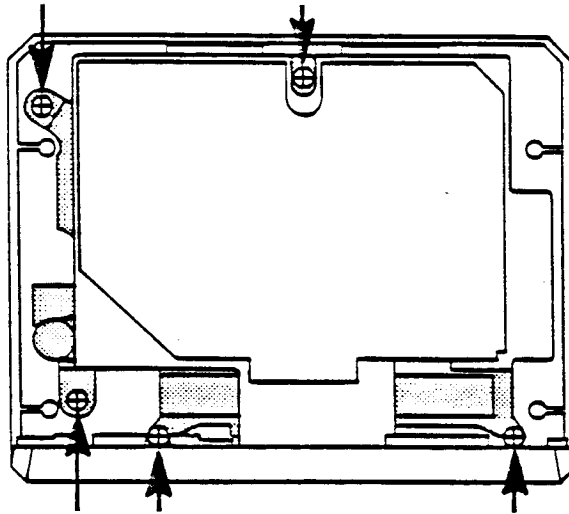

Figure 3-4. Removing the Drive Mechanism
- Remove the five screws holding the drive mechanism in place, as illustrated in Figure 3-4 below.
- Replace the drive mechanism in the top cover and tighten the five screws that you removed (refer to Figure 3-4).